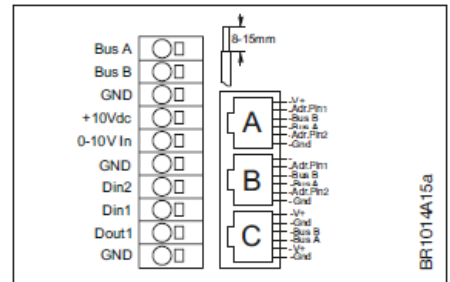

Fig. 3-14.1
- Connect A/D control signals to the terminal strip, see fig. 3-14.1